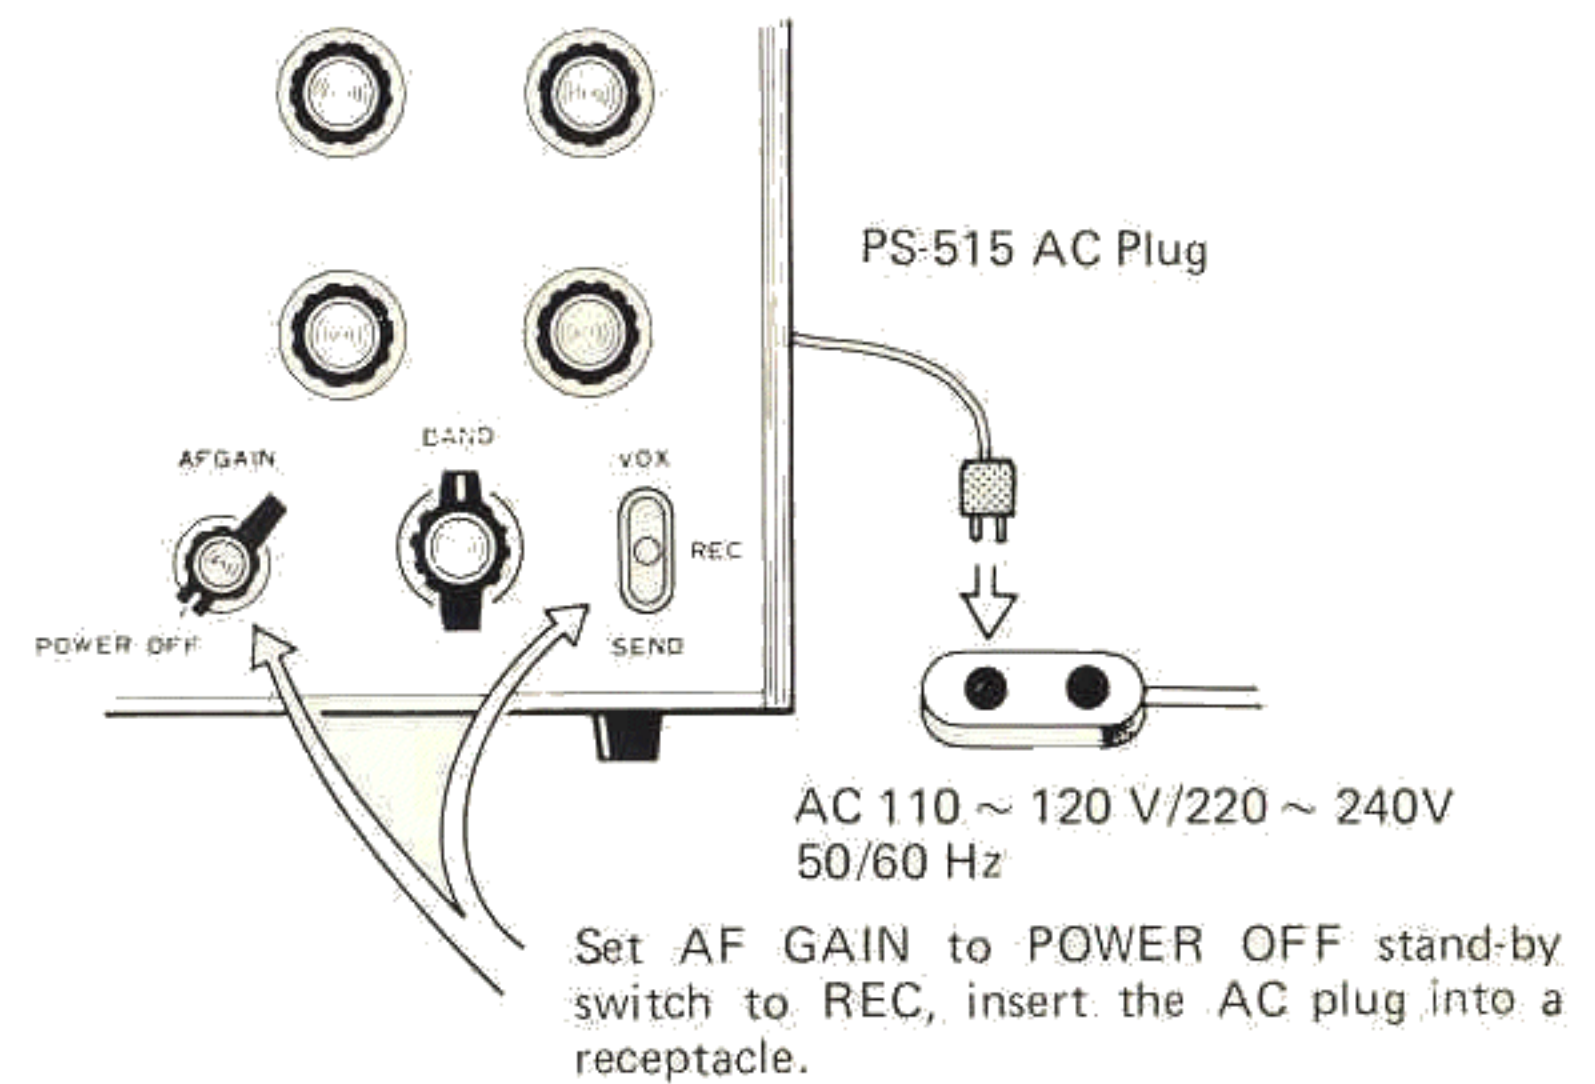

Fig. 5 Initial Switch Settings
**CAUTIONS:** Prior to starting operation, check the fan cable connection and settings of the AF knob and stand-by switch against Fig. 5, and then insert the AC plug into the receptacle. If this is not done, the transceiver may be damaged when power is applied. The fan motor is rated 117 V operation.